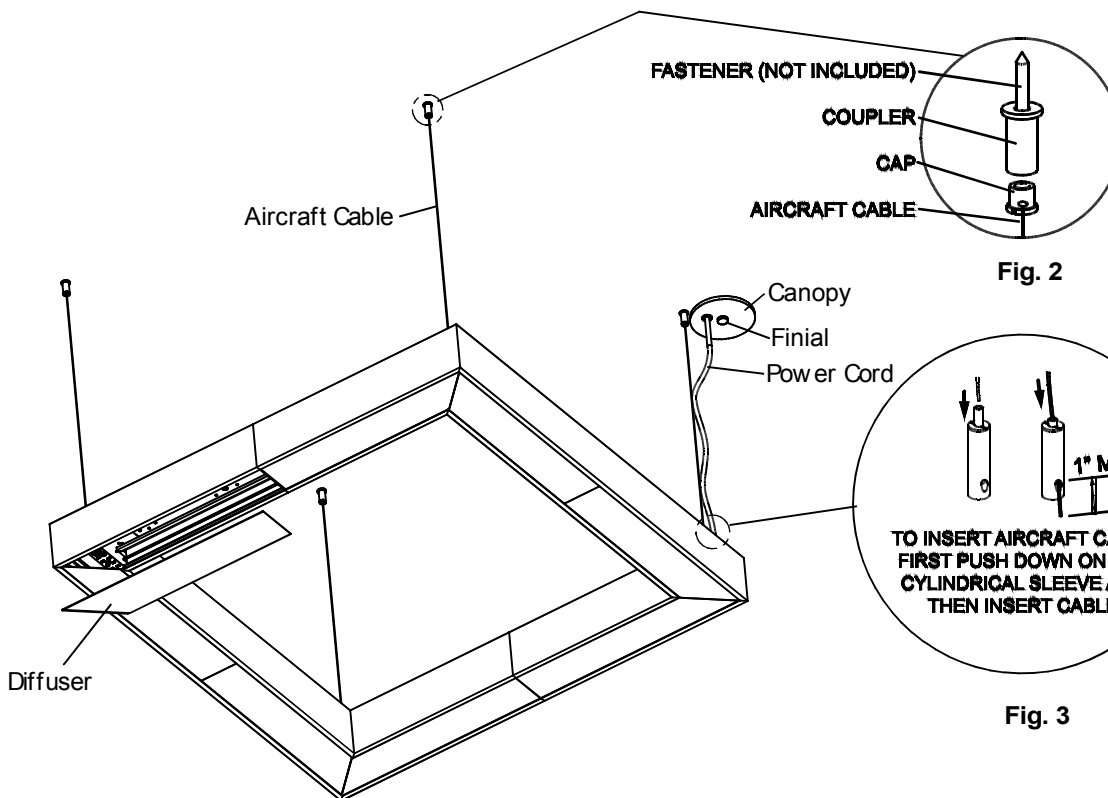

Fig. 4
5. Make appropriate wiring connections and attach the canopy to the junction box using the bracket / nipple / finial assembly provided (Fig. 4).
7. Insert diffusers textured side down by slightly twisting and lifting into place (Fig. 4).
8. Make appropriate wiring connections and attach the canopy to the junction box using the bracket / nipple / finial assembly provided (Fig. 4).